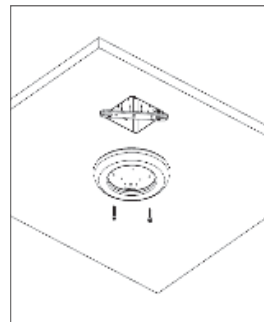

FIGURE 5
F) If the fixture is installed to 3.5" or 4" junction box, align appropriate holes on the fixture to the holes on the mounting bracket (2.75" distance). use 2 of the included screws (M4x20 screws) to attach the fixture to the mounting bracket. If the fixture is installed to a 2.75" junction box align appropriate holes on the fixture with the holes on the junction box. Use 2 of the included screws (M4x40 screws) to attach the fixture which should be flush with the ceiling. Do not overtighten screws or fixture will not be flush with the ceiling. (Figure 5)